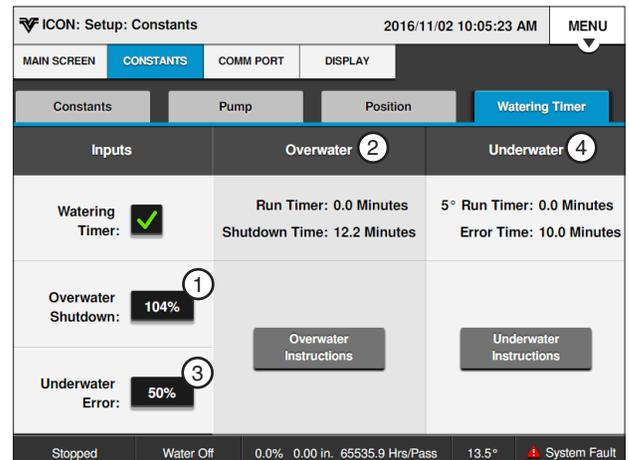

Figure 33-1 1. Overwater Shutdown
2. Select the Overwater Shutdown field. Refer to Figure 33-1.
To view the Overwater Timer Instructions, push **Menu, Setup, Constants, Watering Timer** and push the **Overwater Instructions** button. Refer to Figure 33-1.
1. To set the Underwater Error, push **Menu, Setup, Constants** and **Watering Timer** to display the Watering Timer screen. Refer to Figure 33-1.
To view the Underwater Timer Instructions, push **Menu, Setup, Constants, Watering Timer** and push the **Underwater Instructions** button. Refer to Figure 33-1.